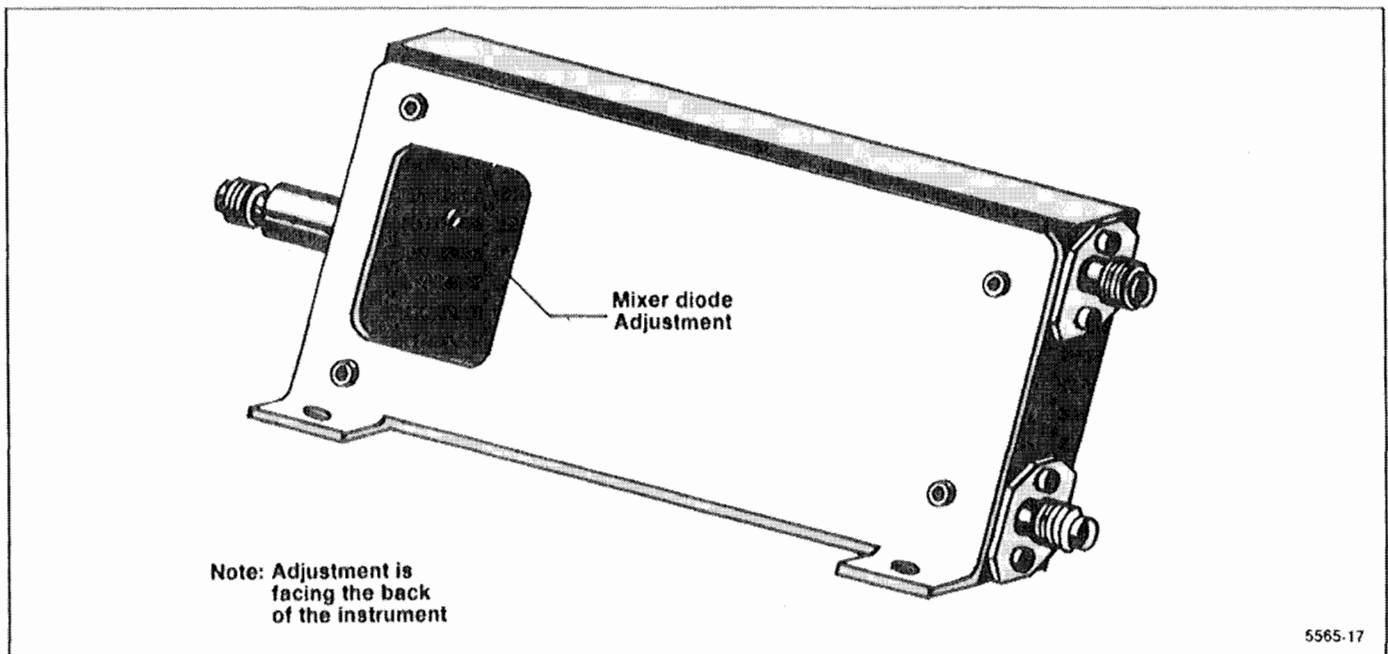

Figure 5-12. 1st Mixer adjustment location.
- g. Adjust R1013 for a null in the amplitude of the 0 Hz response. (Be sure that the dc level at TP1011 DOES NOT exceed +0.1 V as R1013 is adjusted), because this will degrade flatness.) Use a thin screw driver to adjust the tuning screw on the 1st Mixer Diode assembly A12A1. (The tuning screw is towards the rear of the instrument, see Figure 5-12.) Alternately adjust R1013 and the tuning screw for minimum amplitude.